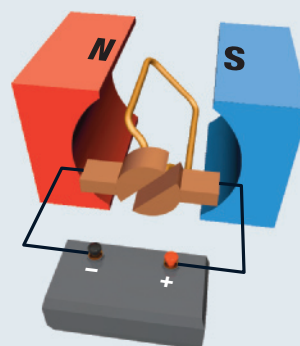

Figure 13
2. (a) Look at **Figure 13**. In which direction will the loop rotate? Explain your answer.